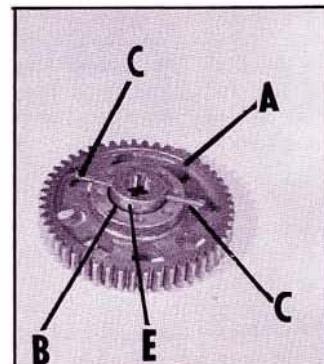

Fig. 20
2. Place bottom gear (A) Fig. 20, flat down on a table or bench, as shown. Using two roll pins (C) inserted in roll pin holes in shifting collar (B), place shifting collar (B) in place in gear (A) as shown. NOTE: One of the roll pins (C) was removed when dis-assembling the gear train and the other is used as shown and enables you to align the shifting collar in order to insert one of the roll pins after the gear train is partly assembled. Make sure the roll pins (C) are not inserted too far into the holes of the shifting collar. They must not be in past the inside diameter of the shifting collar (B). Also make sure the three balls, one of which is shown at (E) Fig. 20, are inserted into the three indents in the shifting collar (B). A little grease on the balls will hold them in place.